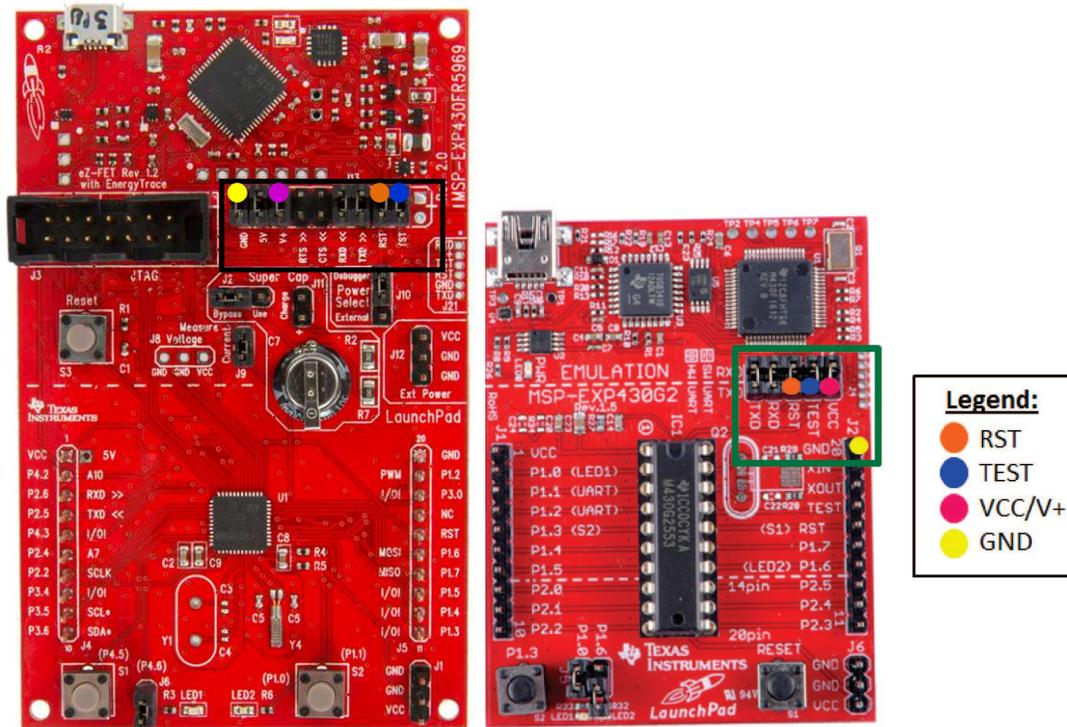

Figure 32. Connections Required to Monitor an Unsupported Device: MSP-EXP430FR5969 (left), MSP-EXP430G2 (right)
1. Remove the RST, TST, V+, and GND jumpers from J13 on the MSP-EXP430FR5969 LaunchPad (see Figure 32). These jumpers connect the on-board emulation to the FR5969 target. Removing these jumpers allows you to connect the emulation to another target board.
2. Remove the RST, TEST, and VCC jumpers from J3 on the MSP-EXP430G2 LaunchPad (see Figure 32). This effectively disconnects the G2553 device from its on-board emulation. The eZ-FET emulation from MSP-EXP430FR5969 board is used instead to program and debug this device.
3. Use jumper wires to connect the signals on the emulation side of the MSP-EXP430FR5969 board to the corresponding signal on the device side of the MSP-EXP430G2 LaunchPad. RST, TST, VCC, and GND on the MSP-EXP430FR5969 must be connected to each corresponding signal on the MSP-EXP430G2. The connections are shown as small color-coded circles in Figure 32.